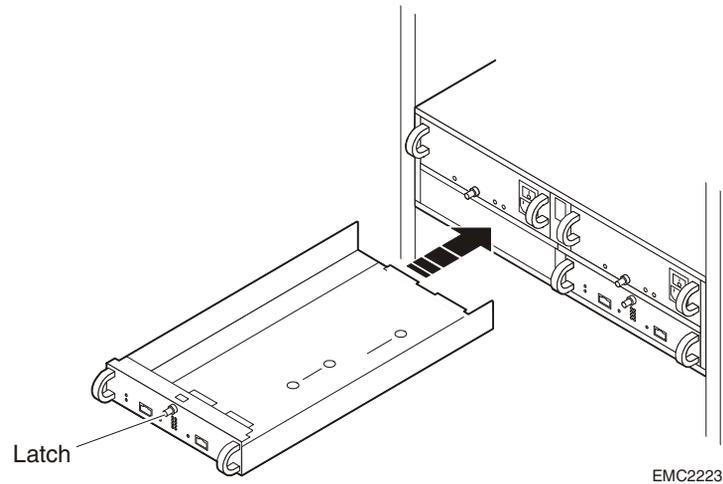

Figure 3-12 Installing an LCC
1. *Gently* insert the LCC as shown in Figure 3-12. Be sure the module is completely seated in the DAE2 midplane.